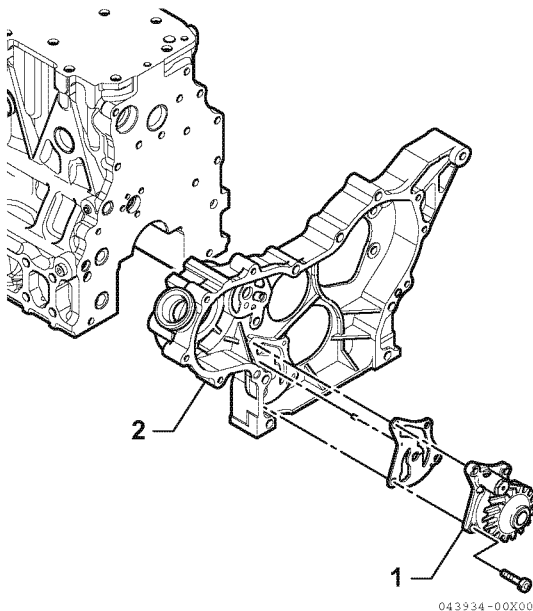

Figure 9-5
3. Remove the lubricating oil pump assembly mounting bolts. Remove the lubricating oil pump assembly (Figure 9-5, (1)) from the gear case flange (Figure 9-5, (2)).